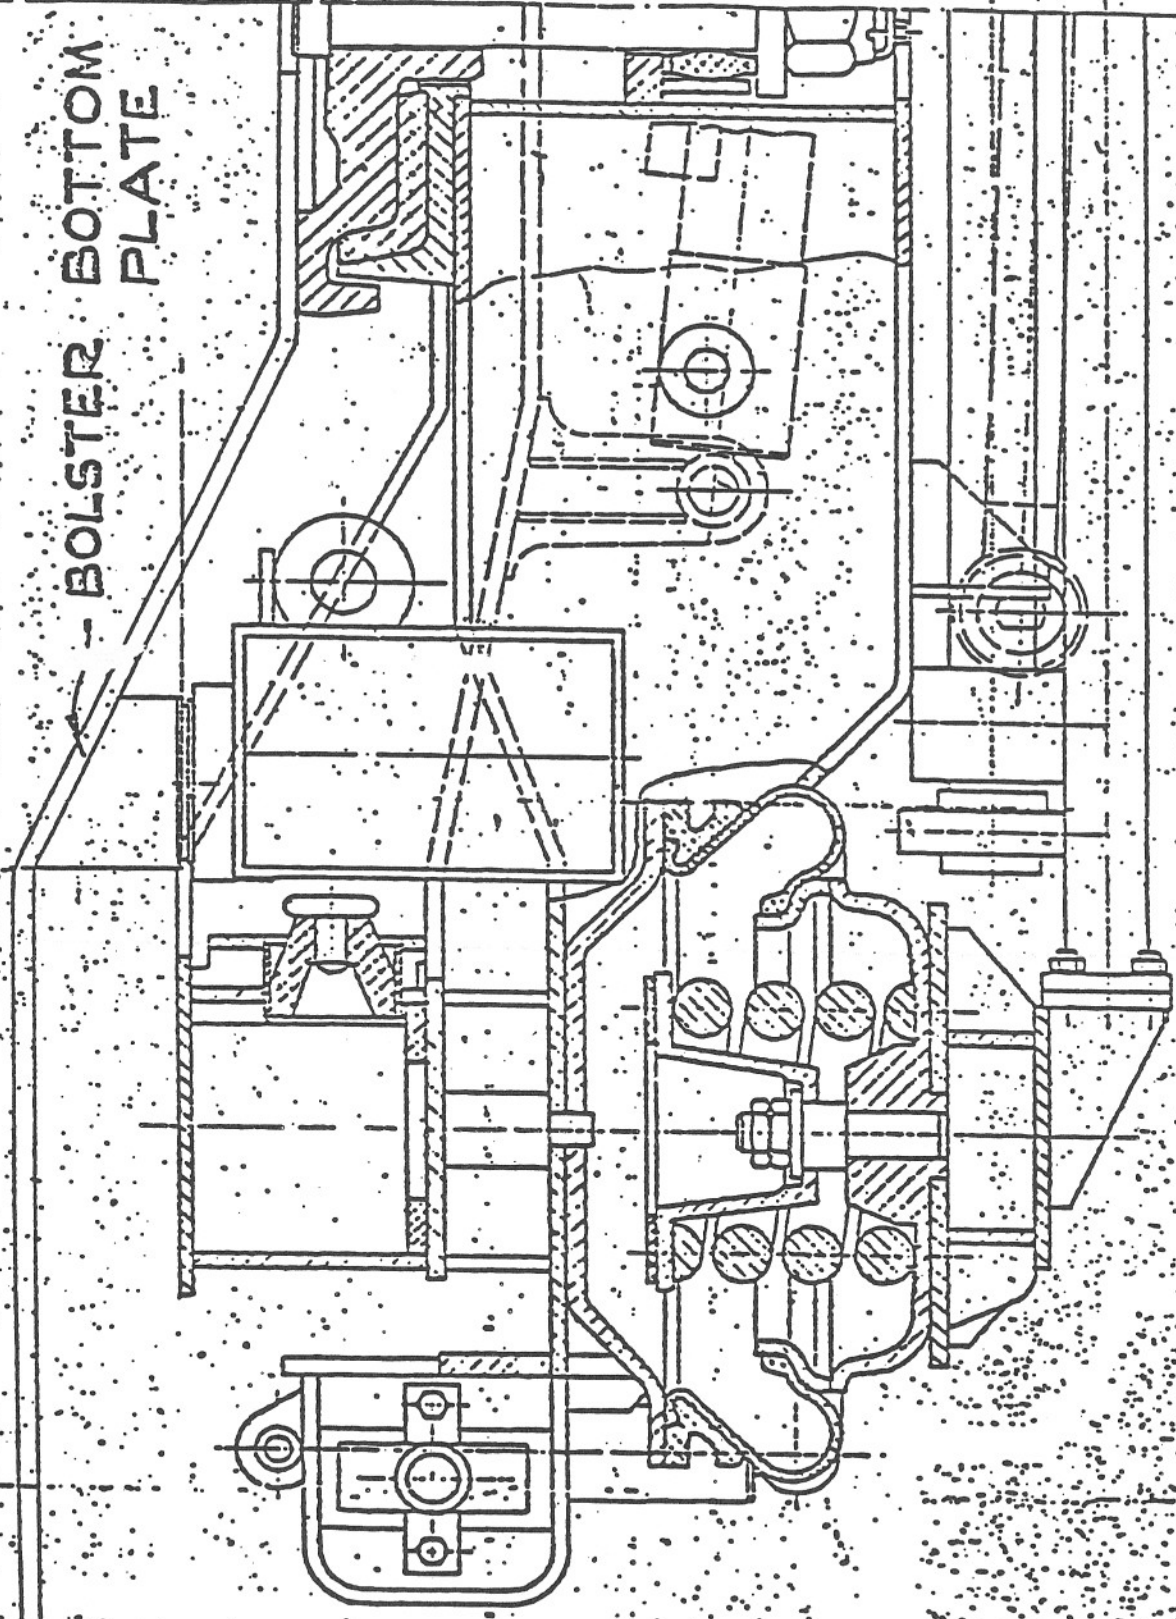

FIGURE 2
3.5 Maintain the relative lateral distance between the truck centers, and place a vertical car jack under each jacking pad on one side of the car. Jack the side of the car until the carbody bolster at the jacking pad has moved 3 1/8 inches. Refer to Figure 2.